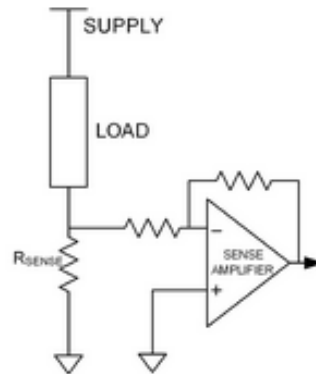

Figure 1 – Typical setup for a low side current sensor. (4)
all of these components are connected with each other determine whether it is a high side or a low side current sensor. A typical low side current sensor requires the resistor and the sense amplifier to be placed after the supply and the load (1). A simple schematic of this design can be seen in Figure 1.